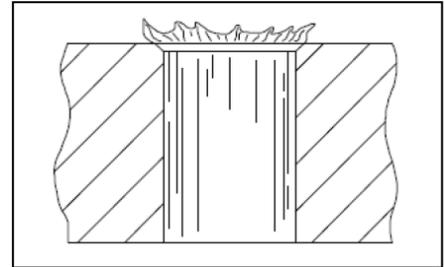

Figure 5 Crowned Burr
- c. **Crowned Burr** (see Figure 5):